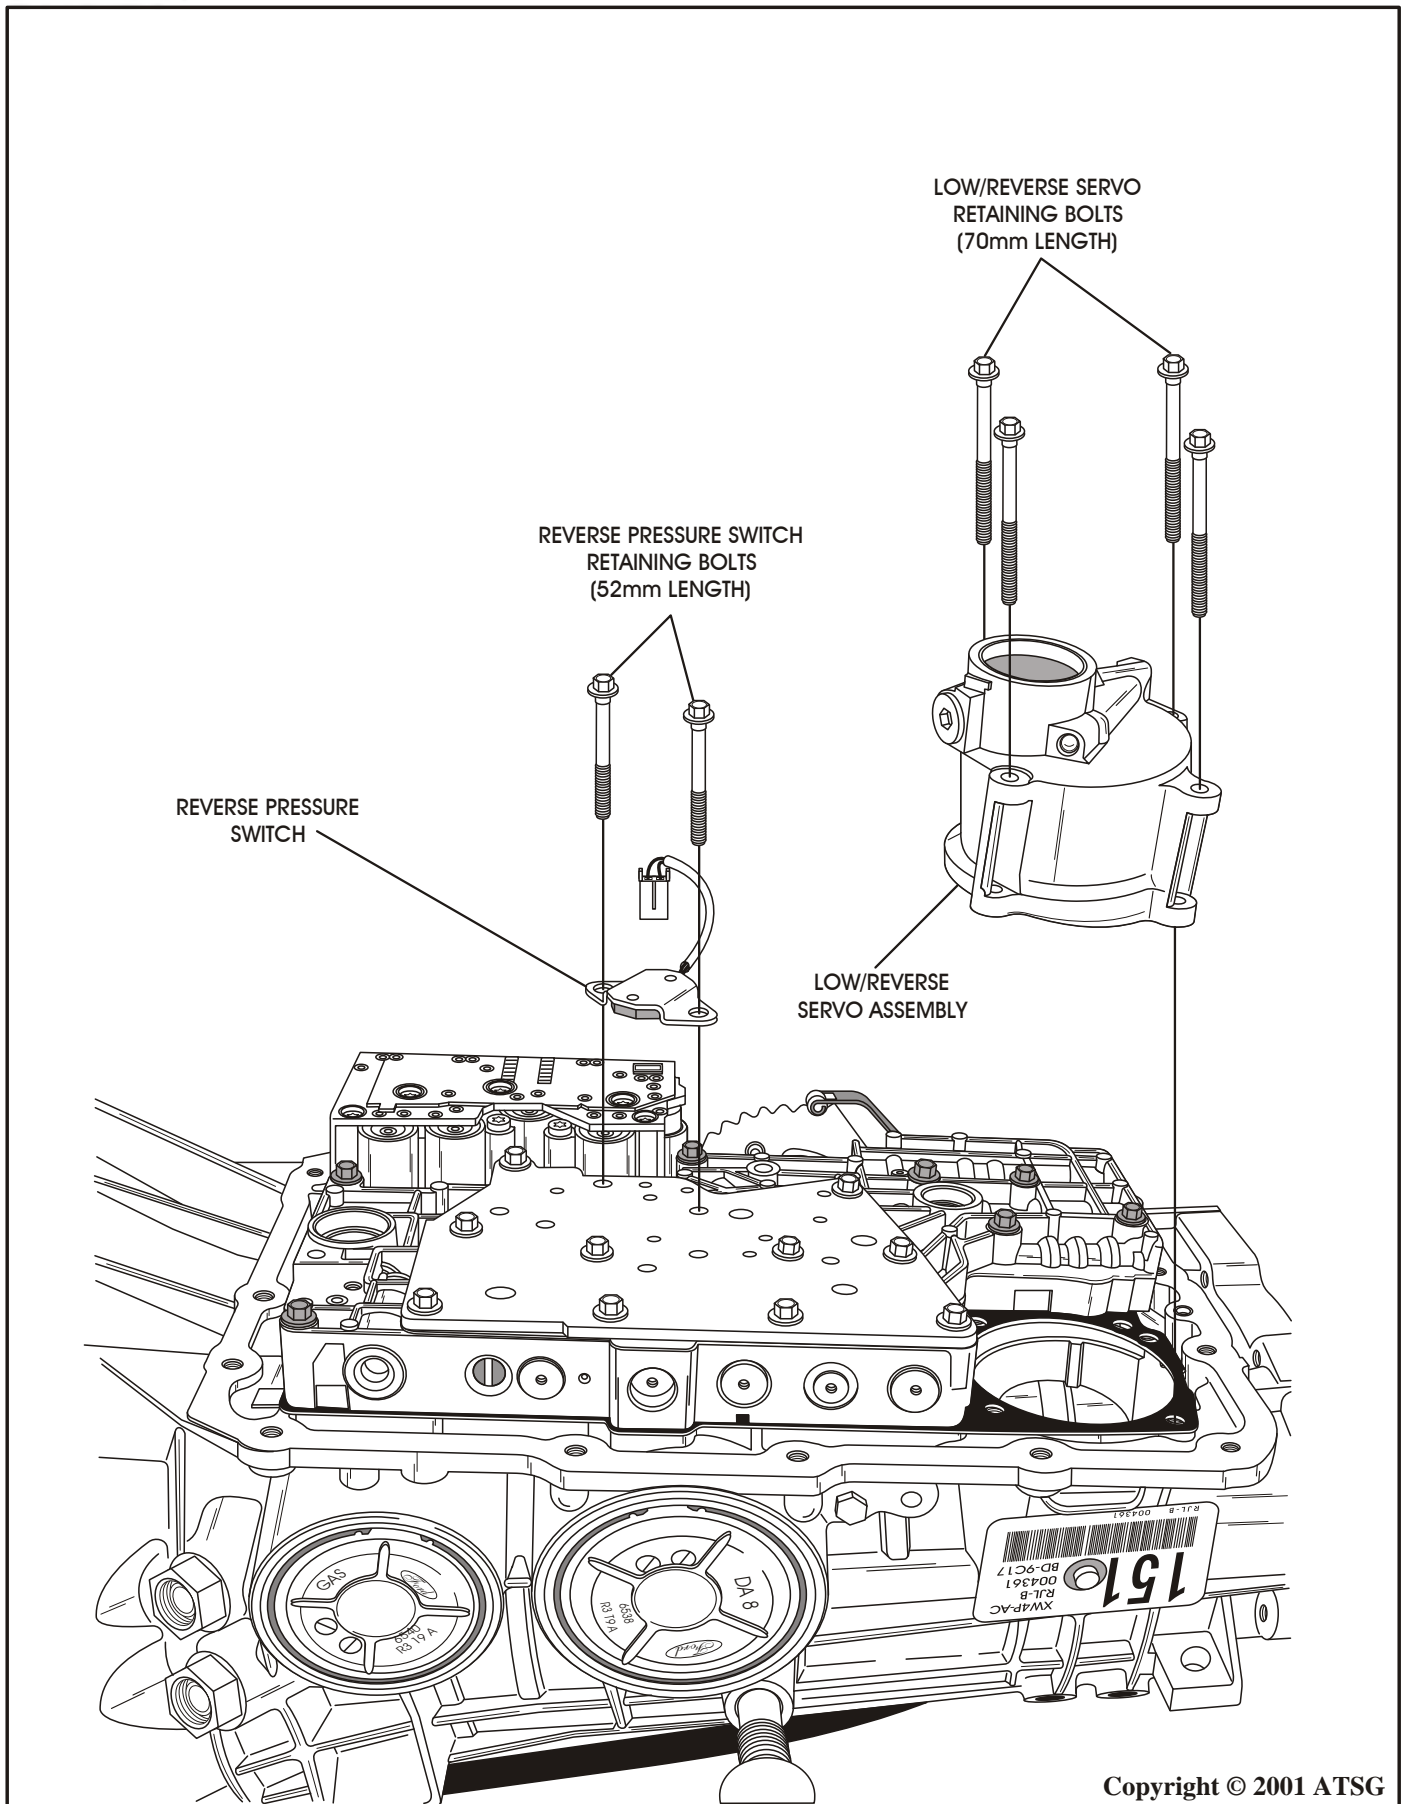

Figure 30
18. Remove the two reverse pressure switch bolts, disconnect the switch from solenoid assembly and remove reverse pressure switch, as shown in Figure 30.
19. Remove the four retaining bolts from reverse servo assembly using an 8mm socket and remove the reverse servo assembly, as shown in Figure 30.